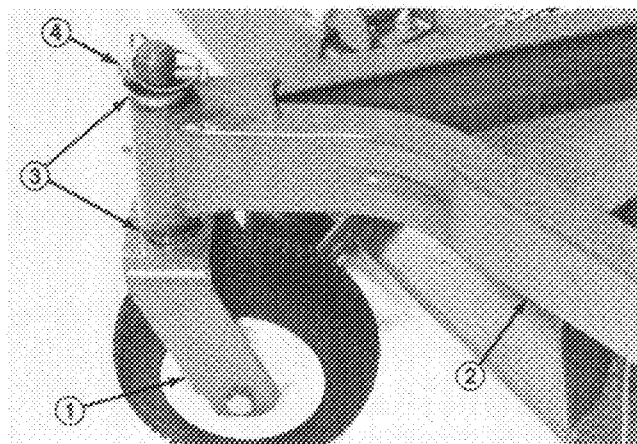

Figure 1
1. Remove Lynch Pins and two thrust washers shipped on each castor wheel assembly. Leave two thrust washers on each shaft, insert shafts into frame, install thrust washers and Lynch pins (Fig. 1).